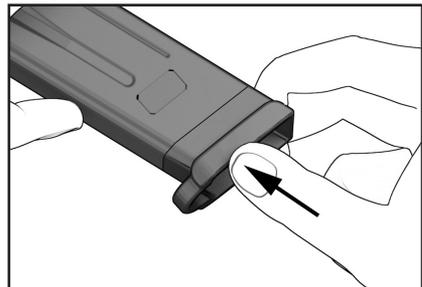

Figure 36
6. Check to see if the locking tabs on the floorplate are securely locked into the housing and the locking detent on the locking plate fits within the hole in the floorplate. (Figure 36)